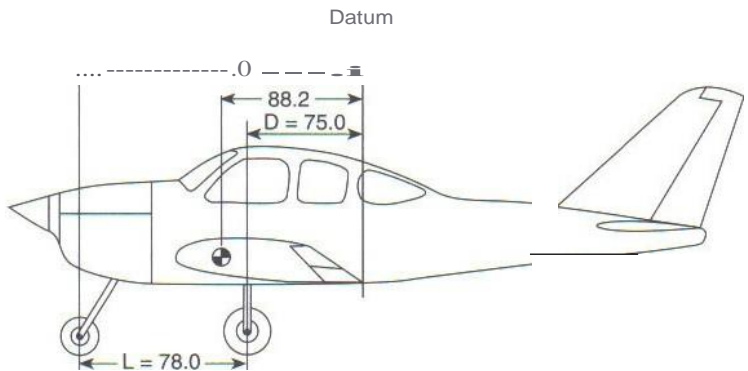

Figure 16.3. The datum is aft of the main wheels at the intersection of the wing trailing edge and the fuselage.
In Figure 16.3, the datum is at the trailing edge of the wing at the wing root. The distance (D) between the main-wheel weighing points and the datum is +75 inches. The weight of the nose wheel (F) is 340 pounds, the distance (L) between the main wheel and the nose wheel weighing points is 78.0 inches, and the total weight (W) is 2,006 pounds.